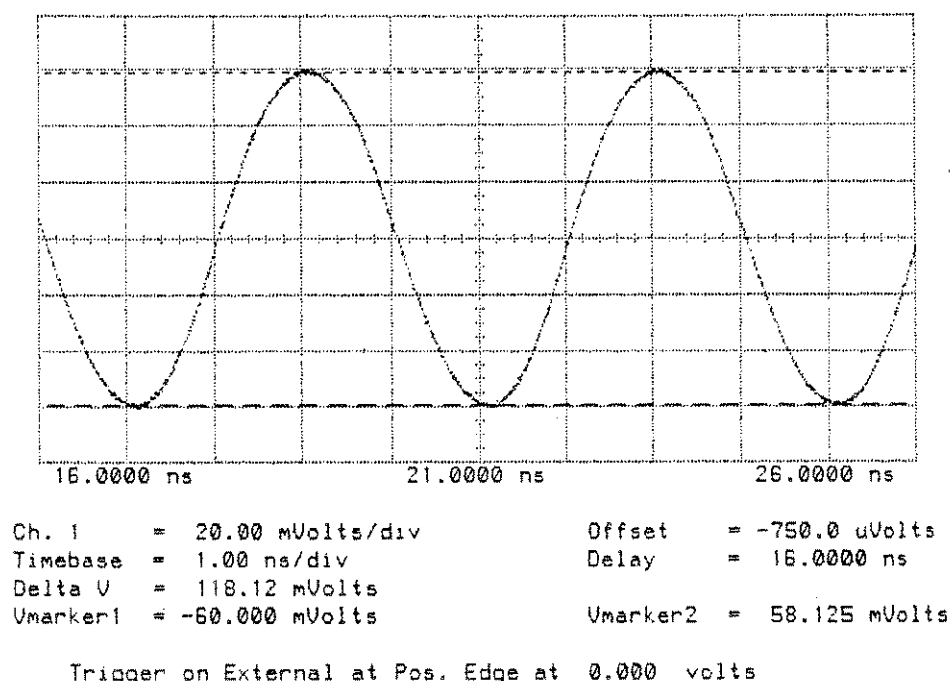

Figure 4-4. Low Bandwidth Adjustment with Markers
6. Adjust LB1 (R153) on Vertical assembly (A2) for a signal amplitude of 0 to 100%. Adjustment LB1 is Low Bandwidth for channel 1 only. Refer to figure 4-4. If the signal does not line up with the markers, adjust for equal amounts above or below the markers.